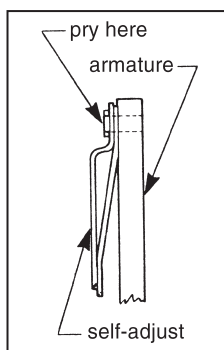

Figure 3
2. If armature is not free to move, insert a screwdriver through the access hole in the conduit box and gently pry the armature (at outer base of self-adjust plate) toward the friction face until the armature is free to pull in. See Figure 3. It may be necessary to rotate the armature 120° at a time to pry the armature forward.